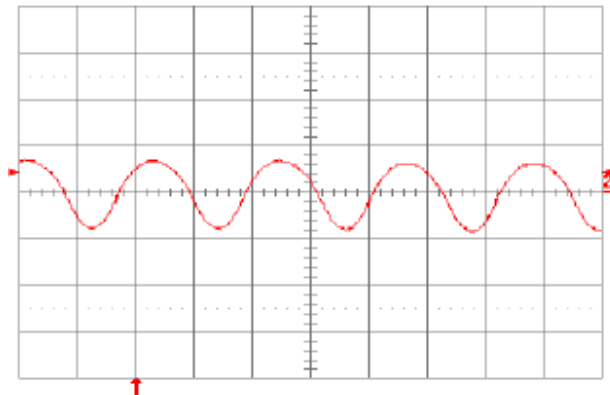

**Fig. 1.8V.12:** Test setup for measuring input reflected ripple currents,  $i_c$  and  $i_s$
**Fig. 1.8V.1:** Available load current vs. ambient air temperature and airflow rates for SQE48T30018 converter mounted vertically with air flowing from pin 3 to pin 1, MOSFET temperature  $\leq 120^\circ\text{C}$ ,  $V_{in} = 48\text{ V}$ .
**Fig. 1.8V.3:** Efficiency vs. load current and input voltage for SQE48T30018 converter mounted vertically with air flowing from pin 3 to pin 1 at a rate of 300 LFM (1.5 m/s) and  $T_a = 25^\circ\text{C}$ .
**Fig. 1.8V.5:** Power dissipation vs. load current and input voltage for SQE48T30018 converter mounted vertically with air flowing from pin 3 to pin 1 at a rate of 300 LFM (1.5 m/s) and  $T_a = 25^\circ\text{C}$ .
**Fig. 1.8V.2:** Available load current vs. ambient air temperature and airflow rates for SQE48T30018 converter mounted horizontally with air flowing from pin 3 to pin 1, MOSFET temperature  $\leq 120^\circ\text{C}$ ,  $V_{in} = 48\text{ V}$ .
**Fig. 1.8V.4:** Efficiency vs. load current and ambient temperature for SQE48T30018 converter mounted vertically with  $V_{in} = 48\text{ V}$  and air flowing from pin 3 to pin 1 at a rate of 200 LFM (1.0 m/s).
**Fig. 1.8V.6:** Power dissipation vs. load current and ambient temperature for SQE48T30018 converter mounted vertically with  $V_{in} = 48\text{ V}$  and air flowing from pin 3 to pin 1 at a rate of 200 LFM (1.0 m/s).
**Fig. 1.8V.7:** Turn-on transient at full rated load current (resistive) with no output capacitor at  $V_{in} = 48$  V, triggered via ON/OFF pin. Top trace: ON/OFF signal (5 V/div.). Bottom trace: Output voltage (1 V/div.). Time scale: 2 ms/div.
**Fig. 1.8V.8:** Turn-on transient at full rated load current (resistive) plus 10,000  $\mu$ F at  $V_{in} = 48$  V, triggered via ON/OFF pin. Top trace: ON/OFF signal (5 V/div.). Bottom trace: Output voltage (1 V/div.). Time scale: 2 ms/div.
**Fig. 1.8V.9:** Output voltage response to load current step-change (10 A – 20 A – 10 A) at  $V_{in} = 48$  V. Top trace: output voltage (100 mV/div.). Bottom trace: load current (10 A/div.). Current slew rate: 0.1 A/ $\mu$ s.  $C_o = 1$   $\mu$ F ceramic. Time scale: 0.2 ms/div.
**Fig. 1.8V.10:** Output voltage response to load current step-change (10 A – 20 A – 10 A) at  $V_{in} = 48$  V. Top trace: output voltage (100 mV/div.). Bottom trace: load current (10 A/div.). Current slew rate: 5 A/ $\mu$ s.  $C_o = 470$   $\mu$ F POS + 1  $\mu$ F ceramic. Time scale: 0.2 ms/div.
**Fig. 1.8V.11:** Output voltage ripple (20 mV/div.) at full rated load current into a resistive load with  $C_o = 10$   $\mu$ F tantalum + 1  $\mu$ F ceramic and  $V_{in} = 48$  V. Time scale: 1  $\mu$ s/div.
**Fig. 1.8V.13:** Input reflected-ripple current,  $i_r$  (100 mA/div.), measured at input terminals at full rated load current and  $V_{in} = 48$  V. Refer to Fig. 1.8V.12 for test setup. Time scale: 1  $\mu$ s/div.
**Fig. 1.8V.15:** Output voltage vs. load current showing current limit point and converter shutdown point. Input voltage has almost no effect on current limit characteristic.
**Fig. 1.8V.14:** Input reflected-ripple current,  $i_s$  (10 mA/div.), measured through 10  $\mu$ H at the source at full rated load current and  $V_{in} = 48$  V. Refer to Fig. 1.8V.12 for test setup. Time scale: 1  $\mu$ s/div
**Fig. 1.8V.16:** Load current (top trace, 20 A/div., 50 ms/div.) into a 10 m $\Omega$  short circuit during restart, at  $V_{in} = 48$  V. Bottom trace (20 A/div., 2 ms/div.) is an expansion of the on-time portion of the top trace.